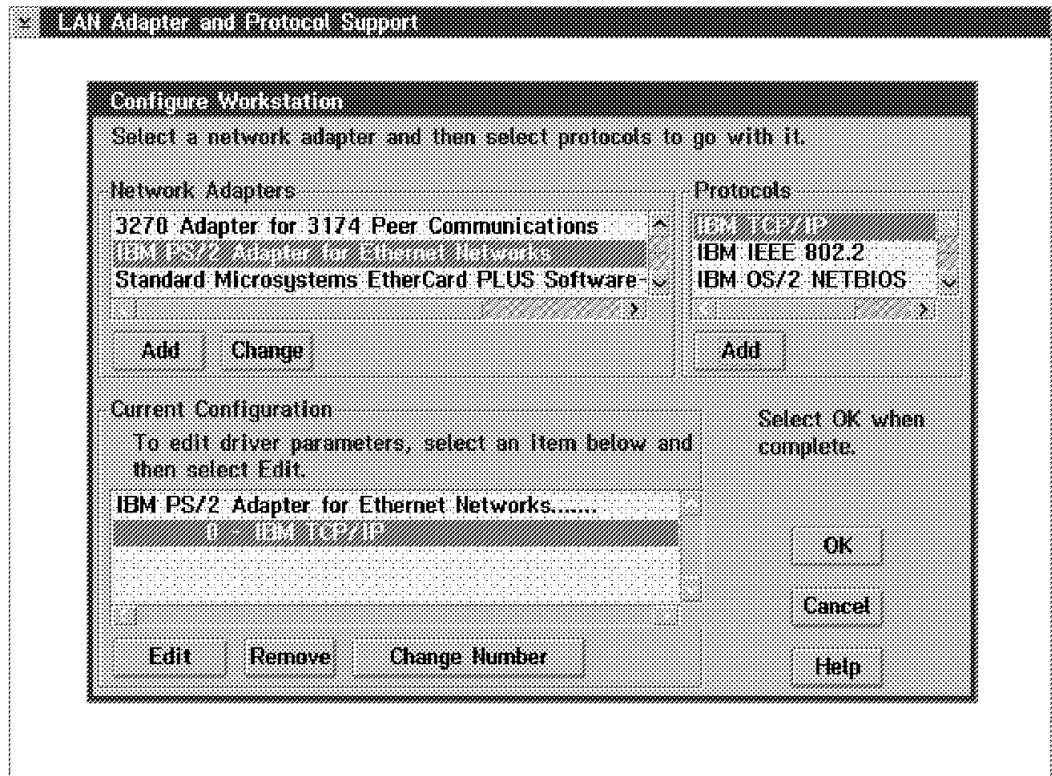

Figure 112. LAPS Configure Workstation Window for Workstation LAN Adapter (Ethernet)
- Step 1. At the Configure Workstation window, make sure that the Current Configuration field includes the proper Ethernet adapter name for the Ethernet adapter type you have installed in your workstation. Use IBM PS/2 Adapter for Ethernet Networks if you have an IBM Ethernet Adapter/A installed or IBM Bus Master Ethernet Adapter if you have an IBM Ethernet Busmaster Adapter. Ensure that IBM TCP/IP is included under the name for the Ethernet adapter as shown in Figure 112.